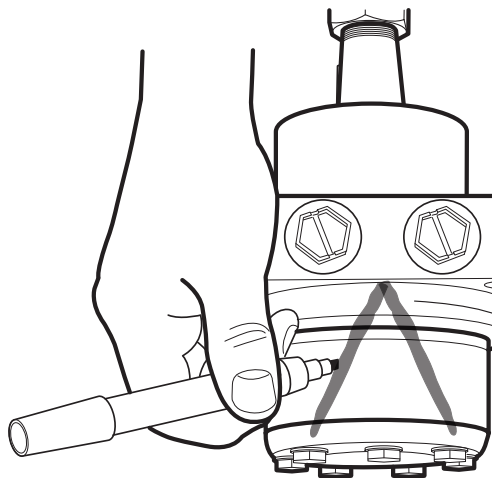

Figure 3, Identification Mark
1. To ensure correct alignment and location during reassembly of motor parts, provide a “V” shaped identification mark. See *figure 3*.